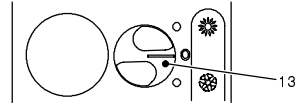

fig. 2.9
To turn the boiler off set the function knob (13) to the position shown in fig. 2.9.